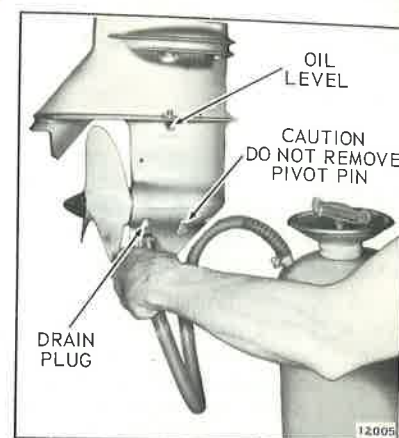
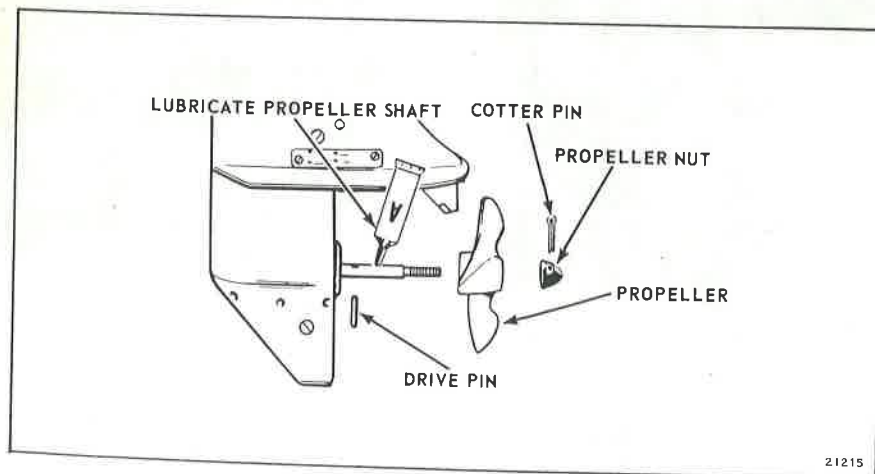

Figure 6-26. Filling Gearcase
Figure 6-31. Propeller Installation
e. Fill gearcase with OMC Sea-Lube* Gearcase Lubricant. See Figure 6-26.
Install new drive pin in the propeller shaft, and place the propeller in position. Install the propeller nut, and secure as tightly as possible by hand. With a wrench, advance (tighten) to align cotter pin hole. DO NOT BACK UP NUT. (If propeller nut is not drawn up tight enough, excessive drive pin and propeller hub wear will result.) Install new cotter pin, bending ends over against nut. See Figure 6-31. Fill gearcase with OMC Sea-Lube* Gearcase Lubricant. See Figure 6-26.